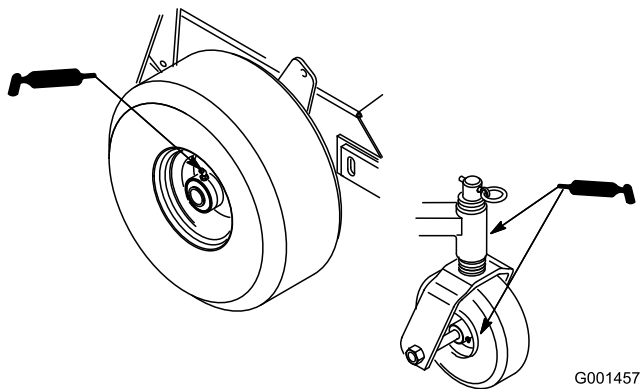

Figure 21
1. Lubricate the front wheel bearings and front spindles (Figure 21).
2. Lubricate the drive wheel bearings (Figure 21).